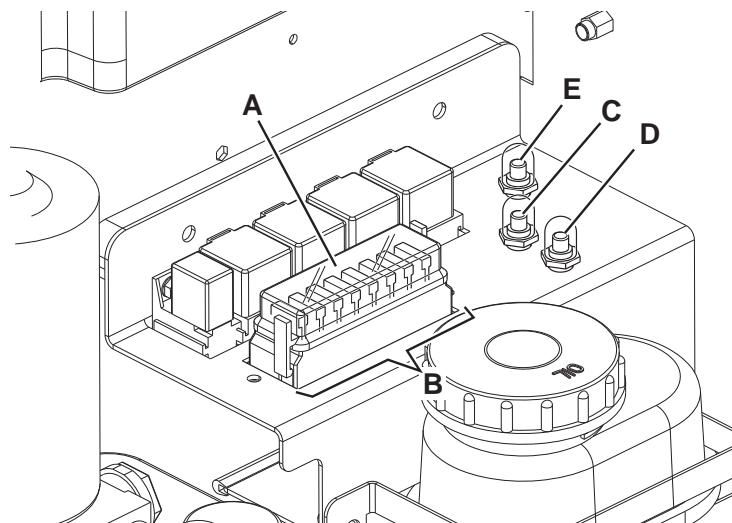

Figure 29
4. Remove the cover (A, Fig. 29) and mark the positions of the fuses shown on the adhesive.
5. Check/replace the relevant fuse among the following (B):
- FA fuse (C, Fig. 29): Right side broom motor circuit breaker
- FB fuse (D): Left side broom motor circuit breaker (optional)
- FC fuse (E): Main broom motor circuit breaker